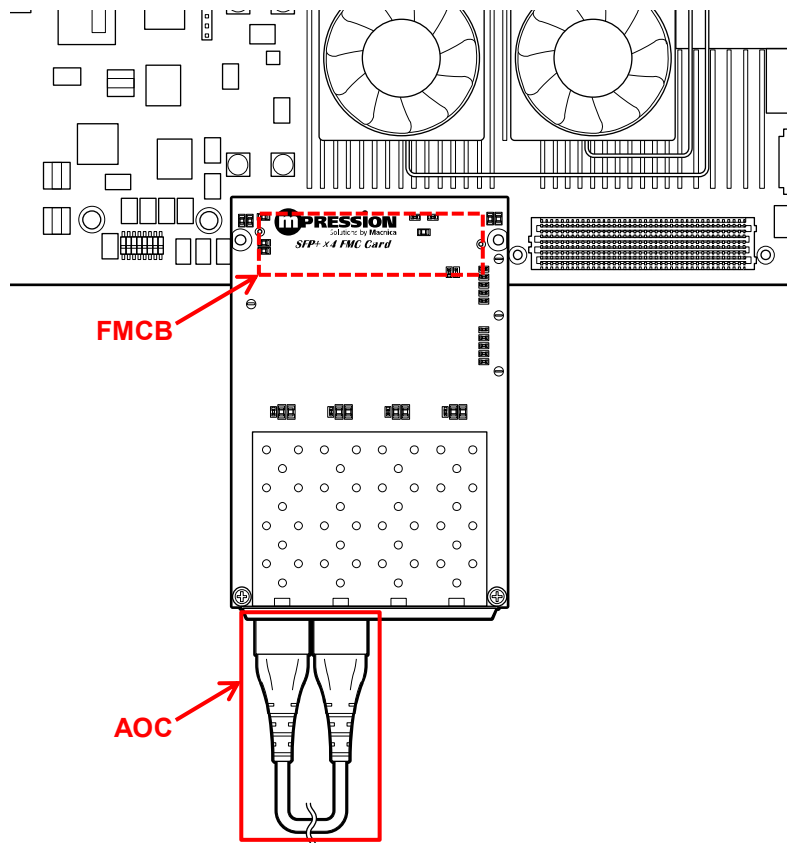

Figure 5-3 Arria® 10 GX FPGA Development Kit Assembly
- 3) Referring to Figure 5-3, connect the AOC to the SFP+ cage ch0 and ch1 on the card.